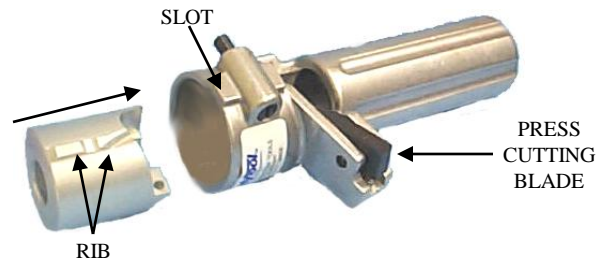

Fig. 2
**Step 2** (Fig. 2) To insert the bushing into the WS5, line up rib on the bushing with the slot on the WS5 housing. Raise the cutting blade by depressing outer end and insert the bushing until it locks into place.